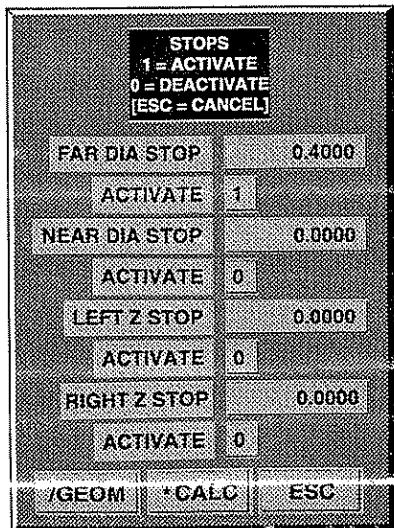

Figure 3-7
- 6) Press **[F3]** STOPS. A screen will appear as in Figure 3-7.